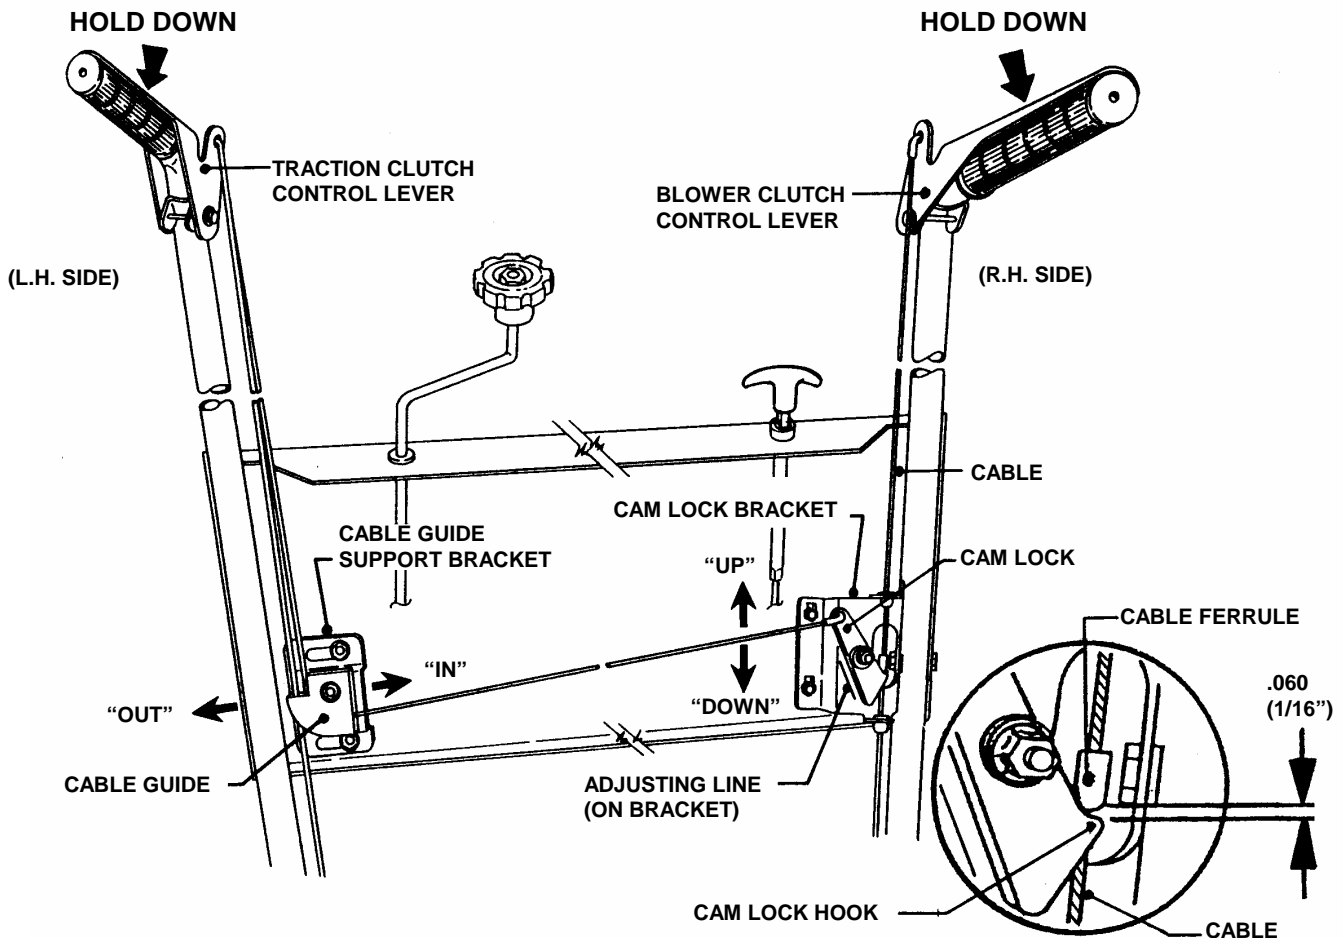

FIGURE 10
- A. Hold the traction clutch control lever down against the handle (L.H. Side) See Figure 10.
- E. Check the position of the cable ferrule shown in Figure 10.
- F. The ferrule shown in Figure 10 must be located 1/16" (.060) above the hook of the cam lock. To adjust, loosen the three nuts on the cam lock bracket and slide it up or down until adjustment is correct. Tighten nuts and release both control levers.